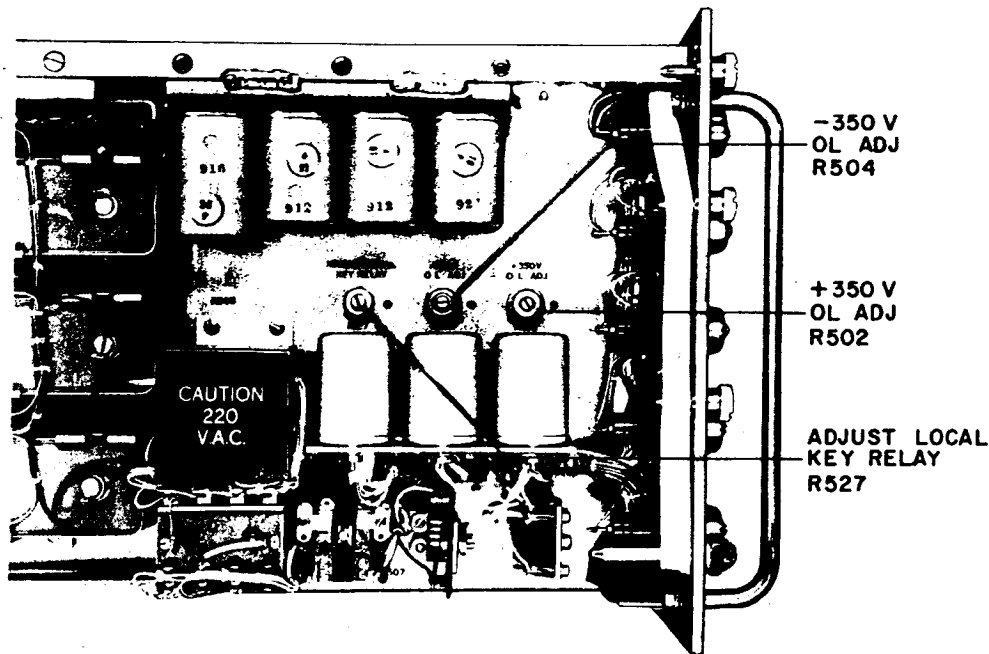

Figure 6-3. Amplifier-Power Supply AM-2198/WRT-1, Lefthand Side Electrical Adjustment
(6) CLIPPER BALANCE ADJUST AND CLIPPING LEVEL ADJUSTMENT.—CLIPPING LEVEL potentiometer R1450 and CLIPPER BALANCE ADJUST potentiometer R1416 are located in the speech amplifier chassis as shown in figure 6-3. In order to make these adjustments proceed as follows:
Step 7. Refer to figure 6-3 and connect Multimeter AM/PSM-4 between ground and the junction of CLIPPER BALANCE ADJUST potentiometer R1416 and resistor R1417. Record the d-c voltage.